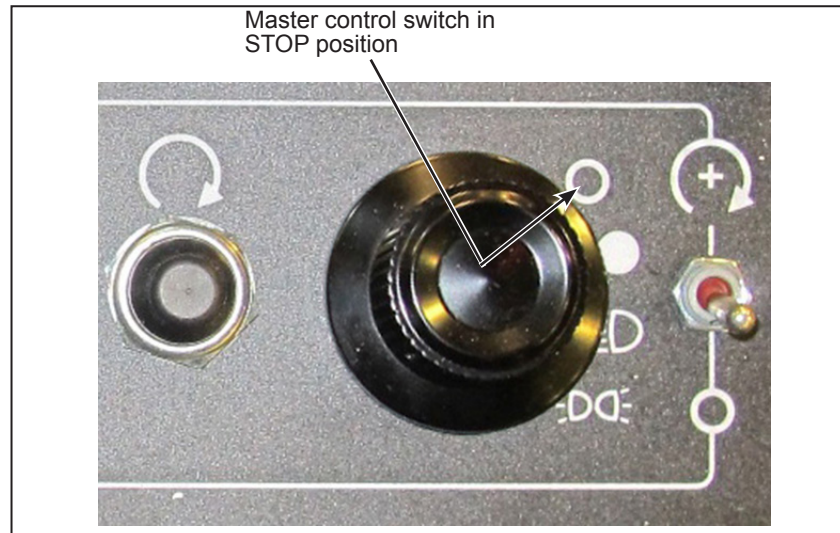

Figure 1 - Master Control Switch in STOP Position
- 1.2. Set the Master control switch in the STOP position (see Figure 1).